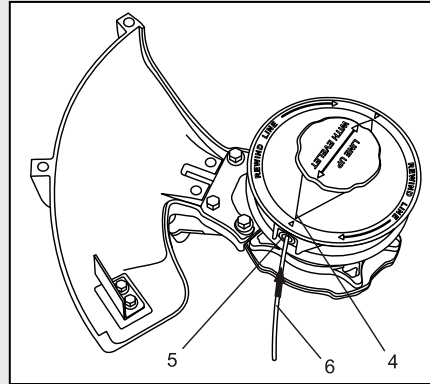

Fig. 5
4. Rotate the empty spool clockwise until the arrows (4) align with the eyelets (5) in the bump head housing (Fig. 5).
5. Insert one end of one of the pre-cut 10' (3 m) trimmer lines (6) into one of the eyelets as far as it will go. Insert one end of the remaining pre-cut trimmer line into the other eyelet as far as it will go.
5. Reinstall any undamaged trimmer line into the spool as outlined in Fig.5.